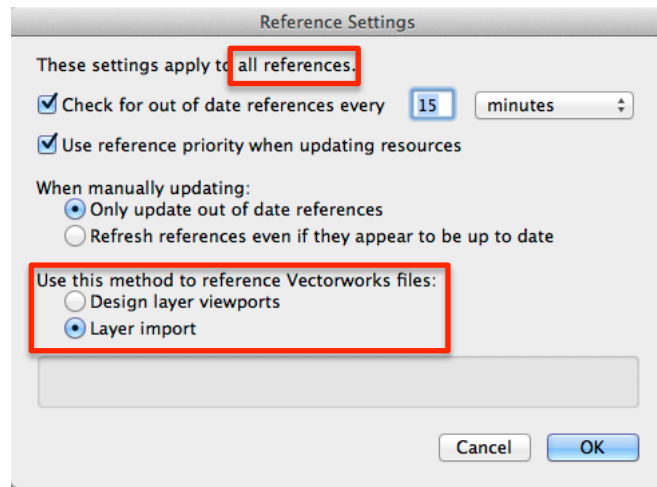

Figure 10 – The Reference Settings dialog
**The "Either-Or" Rule:** A Vectorworks file may incorporate layer-style ("Classic") referencing, or DLVP ("Modern") referencing, but not both. See the dialog in Figure 10; observe the highlighted controls.